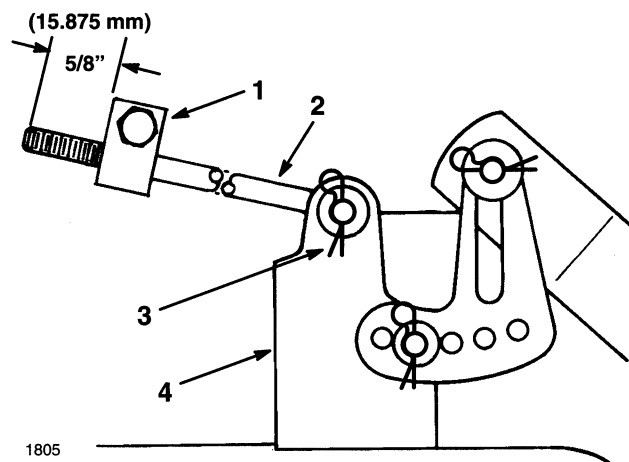

Figure 12
3. Measure the length of the rod extending out the front of the adjusting block on the sides of the chassis (Fig. 12). If the rod length is not 5/8" (15.875 mm), remove the hair pin cotter and washer from the end of the rod (Fig. 12), and turn the rod until the 5/8" (15.875 mm) dimension is obtained. Then install the end of the rod into the hole in the mower mount and secure in place with washer and hair pin cotter. Repeat this procedure on the opposite side of the mower.